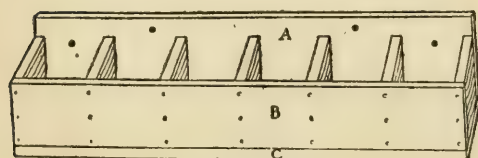

FIG. 48.
**Partitioned Nail Box** (Figs. 47-49) will hold six different lengths of nails. Cut the back and bottom (*A* and *C*, Fig. 48) 3 feet long